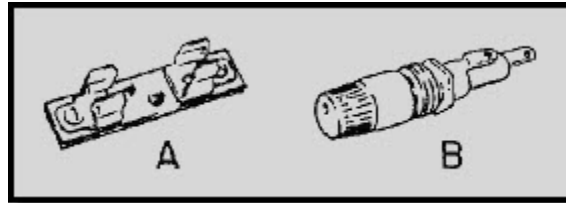

Figure 2-B Fuseholder identification
IN ANSWERING QUESTIONS 2-31 THROUGH 2-34, REFER TO FIGURE 2-B.
2-31. What type of fuseholder is shown in figure 2-B (A)?
2-32. What type of fuseholder is shown in figure 2-B (B)?
2-33. When you use the fuseholder shown in figure 2-B (B), which connector should be connected to the power source?